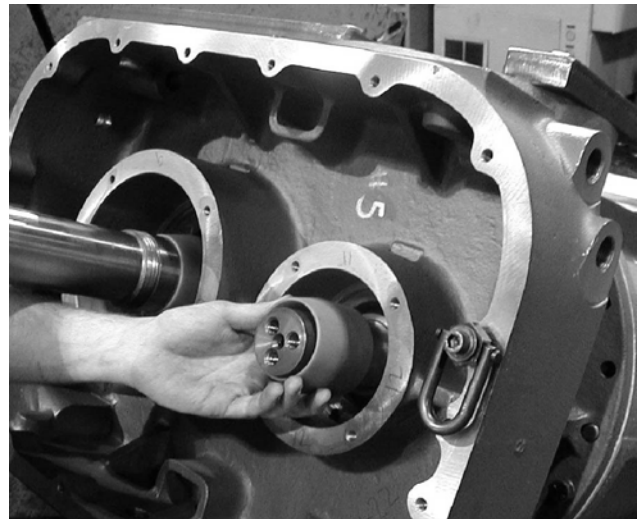

FIGURE 14
14. Slide the protective installation sleeves over each shaft (FIGURE 14). Install the green outside diameter oil seal (27) on the main rotor shaft and the red outside diameter oil seal (28) on the gate rotor shaft. The dirt lip and the rotation arrow should be down. Drive the seal flush with the bottom of the oil channel cast inside of the bearing